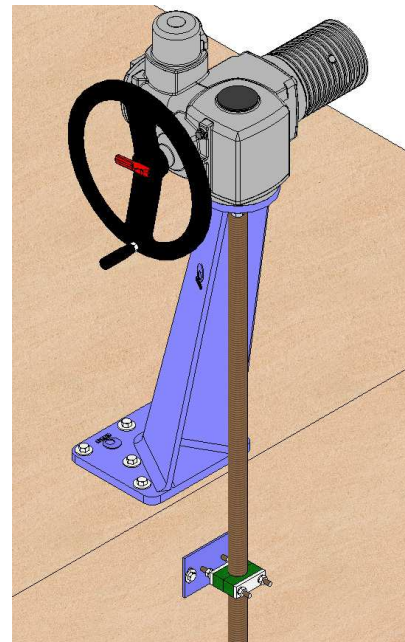

fig. 21
- Option of leaning floor stand (fig. 21).